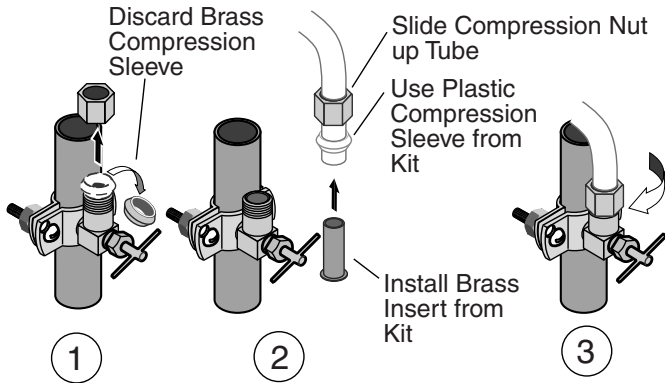

Figure 7: Replace compression sleeve and install insert in tube.
6. Remove the brass compression nut from the Cold Water Saddle Valve. Slide the nut over the end of the white plastic tube coming from the inlet to the Pre-filters. Discard the brass compression sleeve. Slide the plastic compression sleeve provided (in the bag with the Cold Water Saddle Valve) onto the tube and push the brass insert provided into the end of the tube (see Figure 7).